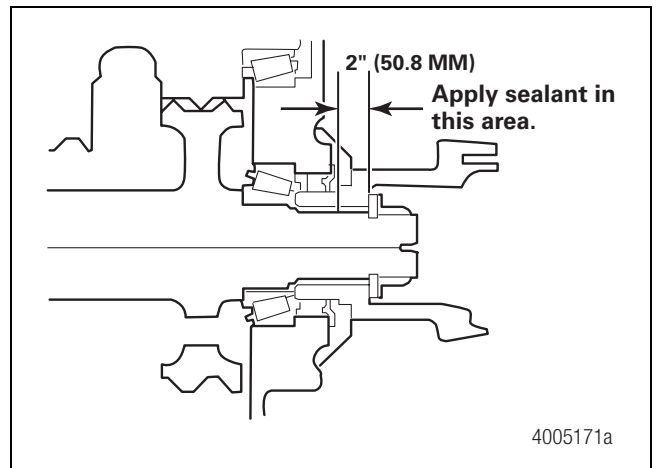

Figure 6.25
8. Apply a light coat of transfer case oil to the yoke seal journal. Before installing the yoke, clean the splines of the old silastic. Apply a 1/8-inch (3.175 mm) bead of RTV 732 sealant 360 degrees around the outer two-inches (50.8 mm) of the yoke splines. Figure 6.25.
9. Install the yoke, washer and yoke nut. Loosely tighten the yoke nut at this time. Figure 6.25.